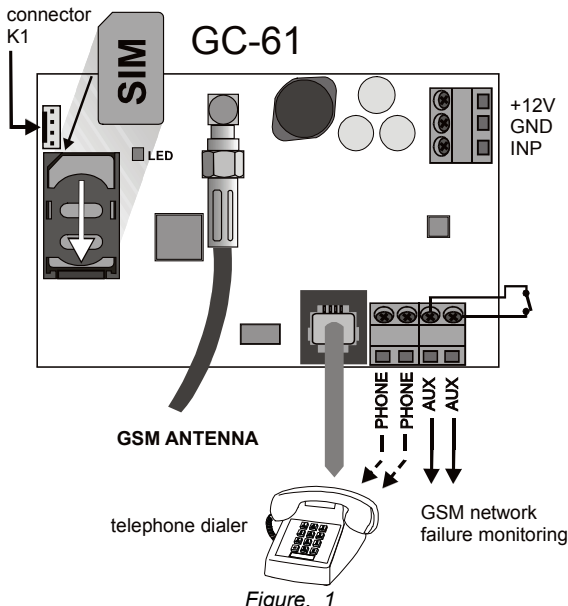

Figure. 1
- Open the SIM card holder** (by sliding it in the direction shown in the figure 1 below and **insert the SIM card** into the holder and **close it** by sliding it back.
- The AUX output is switched on if the GSM network is not available for 15 minutes. AUX can be used as an alarm terminal. (normally open dry contact, max. 100mA / 60V) – see the figure 1